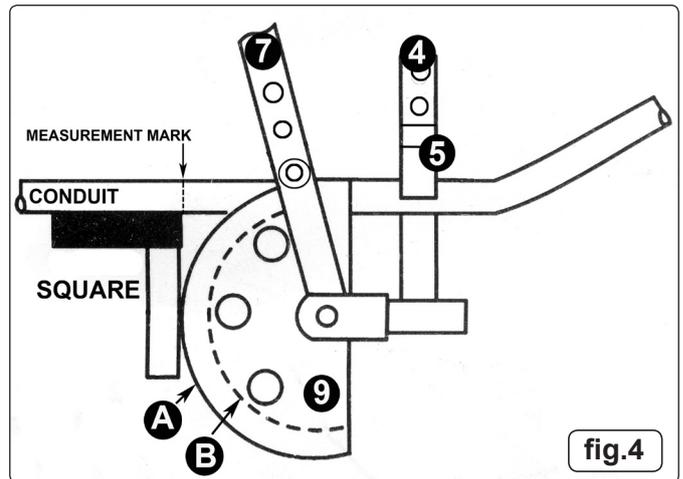

fig.4
- 4.2.3 Place a square or a rule against the mark on the conduit and slide the conduit along until the square touches the outside edge of the former (9) (fig.4.A). The conduit is now in the correct position for bending.
- 4.3.3 Place a square or a rule against the mark on the conduit and slide the conduit along until the square touches the inside edge of the former (9) (fig.4.B). The conduit is now in the correct position for bending.
- 4.4.1 If the required measurement is from the outside to the outside of the bends, mark off from the outside of the first bend and square up with the outside (fig.4.A) of the former (9). If the measurement is from the outside to the inside of the bends (centre to centre) square up with the inside of the former (fig 4.B).